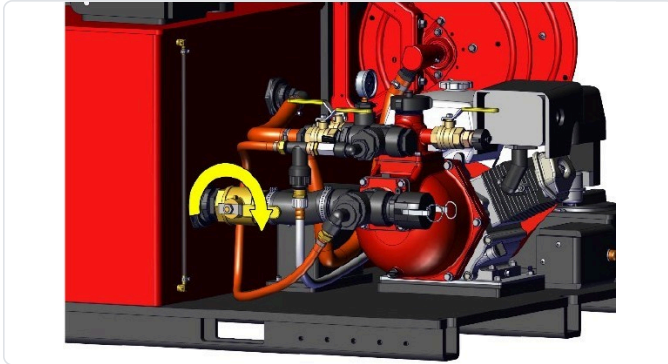

Figure 11. 2" Tank to Pump valve set to draft
1. **Set the 2" Tank to Pump valve to pull from the draft port (Figure 11). Make sure the pump head is primed.**